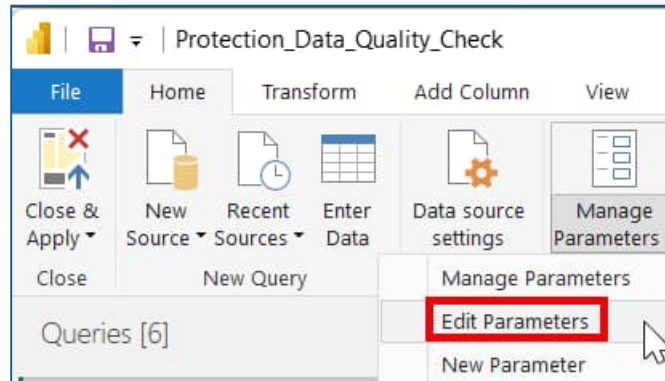

Figure 12: Click Edit Parameters.
6. Click **Manage Parameters | Edit Parameters**. See Figure 12.